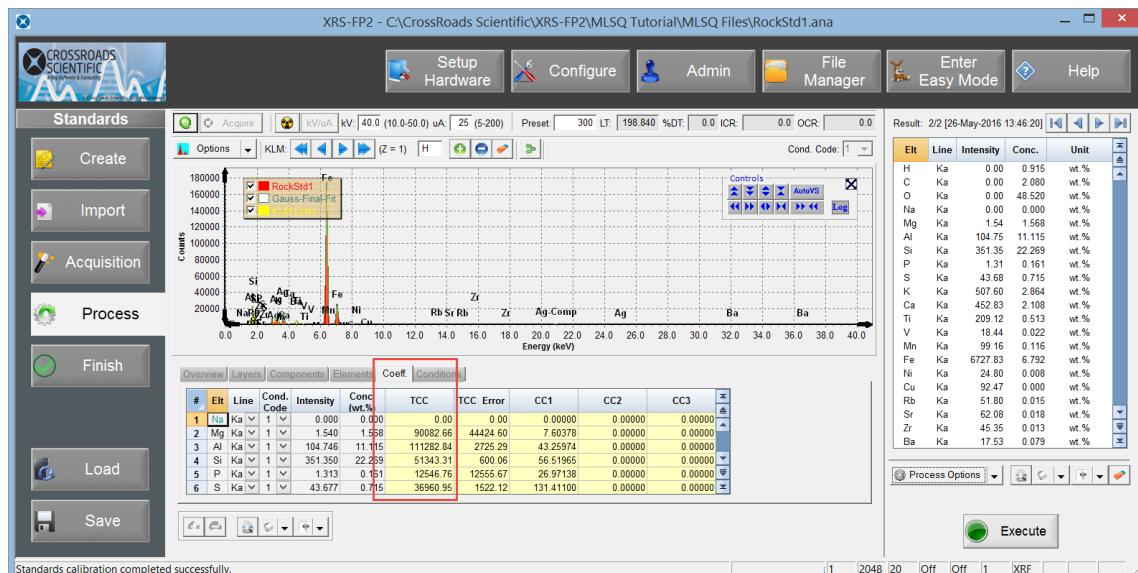

Figure 2. Standards Workflow - Process. The first MLSQ standard spectrum (“RockStd1.mca”) has been processed and TCC values obtained.
8. Now select the **Process** button. Then click on the **Execute** button in the R-hand panel. This will process the spectrum and generate FP Theoretical Calibration Coefficients (TCCs) in one step. Notice that the TCC values are displayed under the “Coeff.” Tab. See Figure 2 below.